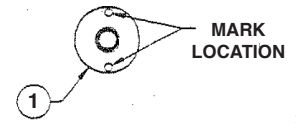

Fig. 1
1. Place mounting post **(1)** on wall in desired location and mark location of mounting holes **(Fig. 1)**.
3. Place mounting post **(1)** on wall in desired location and mark location of mounting holes **(Fig. 1)**.